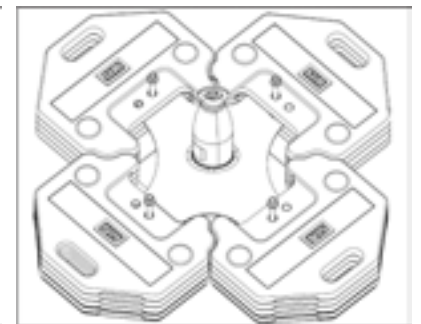

Figure 7
- e. Assemble one more layer of counterweights over the LEAP Anchor base, then apply a washer and nut to each of the Lbolts. Hand tighten all four nuts snugly. See Figure 7.